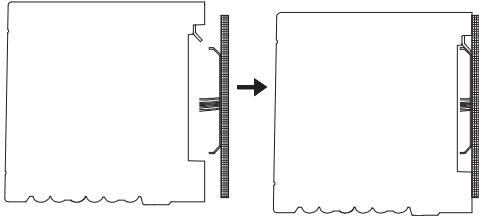

Fig 5
5. Follow the arrow direction to slide the fixture onto the mounting bracket. (Fig 5)